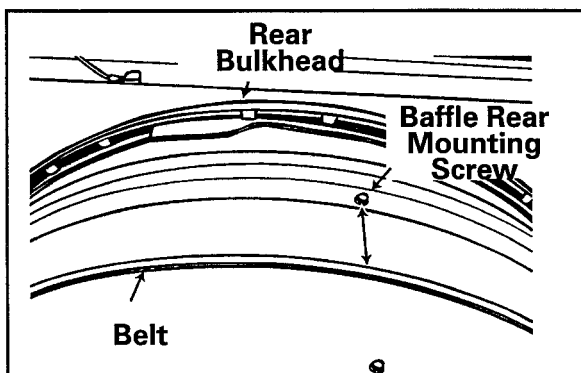

Figure 6-10
- Place belt onto the outside of the tumbler and position the belt 1 1/2" in front of rear baffle mounting screws with ribbed side against tumbler. (See Figure 6-10)